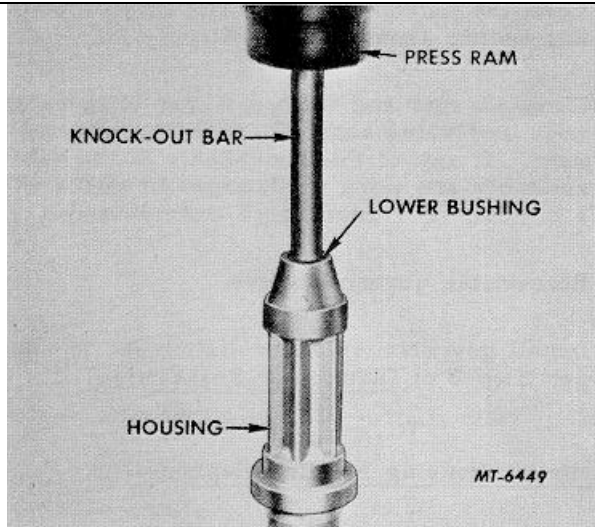

Fig. 38 Pressing Out Upper Bushing Using Knock-Out Bar
2. Place distributor housing on press bed. Insert knock-out bar (make locally from cold rolled bar stock 7/16" diameter x 11" long) through lower bushing and allow to rest on end of bushing remover installed in upper bushing. Pressing against knock-out bar, press upper bushing from housing (Fig. 38).